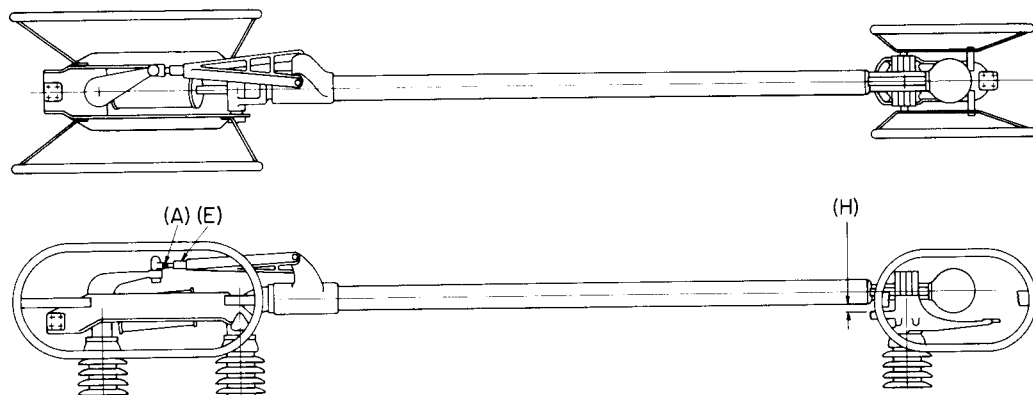

Fig. 7. Switch current-carrying parts
In Fig. 7, dimension (H) can vary from about 1/8" to 5/8" or a little more, with the switch in the closed position. It is not usually possible to get this dimension to be equal on all poles of a three-pole switch. If necessary to vary this dimension, remove connecting pin (A) and screw clevis (E) in or out 1/2 turn then reconnect and try switch. Repeat if necessary, but be very careful not to screw clevis (E) out too far so that the blade is forced down hard against the fulcrum. This can cause damage to internal parts at the hinge end. If blade is too far into jaw and not open far enough, screw clevis into forked link. If blade is too high in jaw and opening too far, then turn clevis out of forked link.